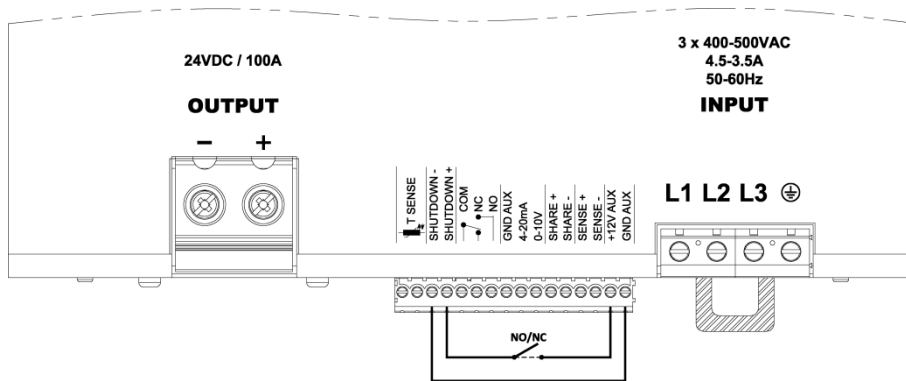

Figure 15. Remote shutdown input connection by using the AUX power supply
- External switch or relay contact:** by connecting an external switch or relay contact as indicated in Figure 15 the LDT2400 output can be switched ON or OFF by only acting on the switch or relay contact.